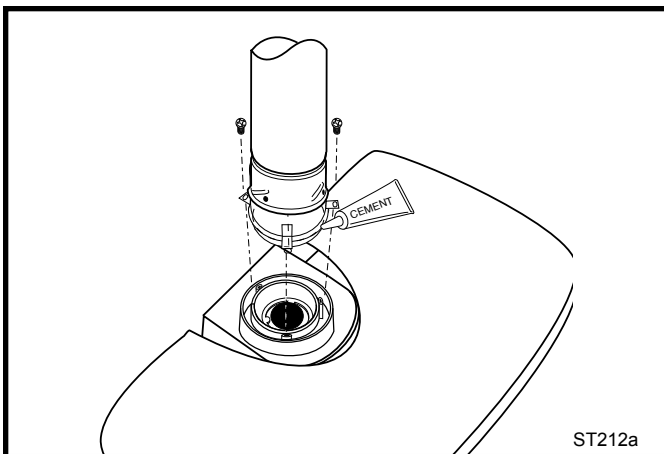

Figure 19 Attach inner assembly to flue collar.
- Run a bead of sealant around the bottom end of the starter pipe and attach the assembly to the stove using three 1/4-20 x 3/8" Phillips screws provided in the parts bag. (Figure 19)